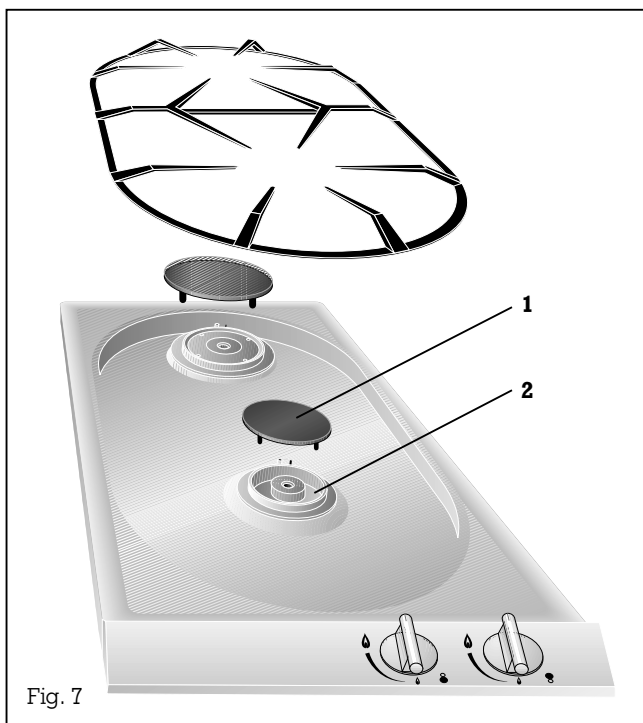

Fig. 7
When assembling, place the **burner cover (1)** on the **burner head (2)** so that the four tabs on the bottom edge of the burner cover engage in the corresponding tabs on the burner head (see Fig. 7). Place the pot grids back in position.